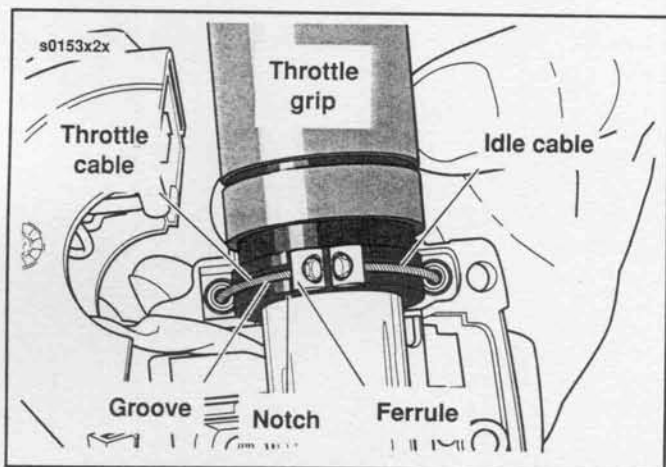

Figure 2-86. Install Throttle/Idle Control Cables on Throttle Control Grip
2. See Figure 2-86. Unhook the ferrules and cables from the throttle grip and lower housing. Remove the air cleaner assembly—see Section 4. Disconnect the other end of the cables from the carburetor.